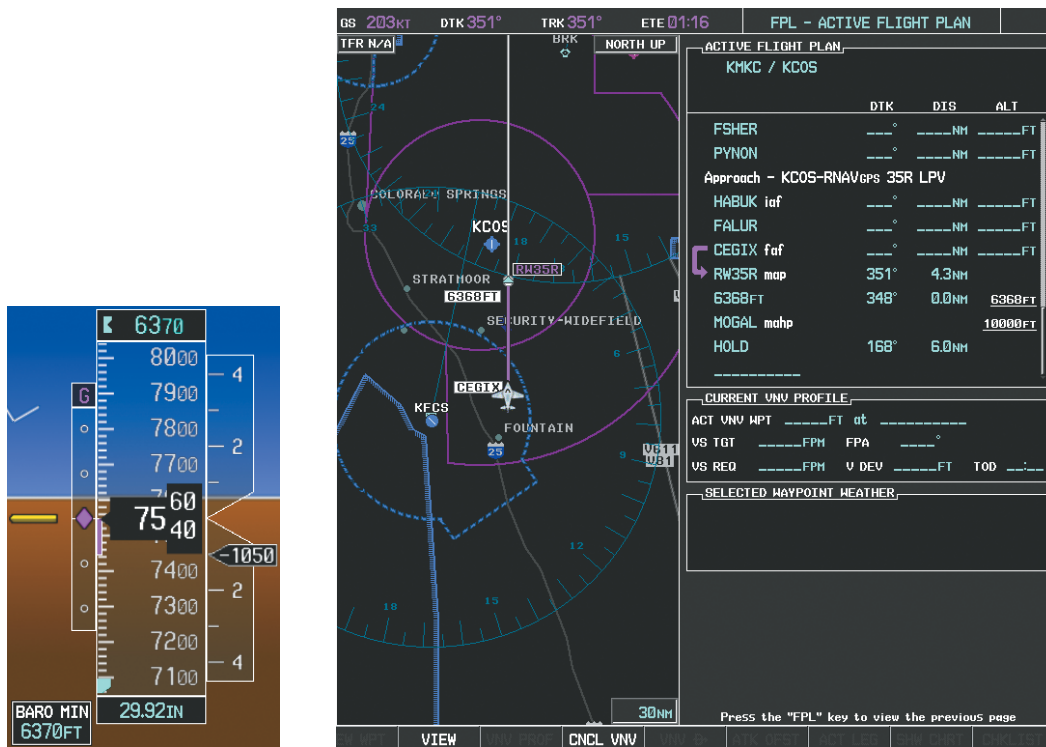

Figure 5-151 Descending to the Missed Approach Point
- 24) After crossing CEGIX, the aircraft continues following the glidepath to maintain the descent to "AT or ABOVE" 6,370 feet at the Missed Approach Point (MAP) (RW35R) as seen in Figure 5-151.